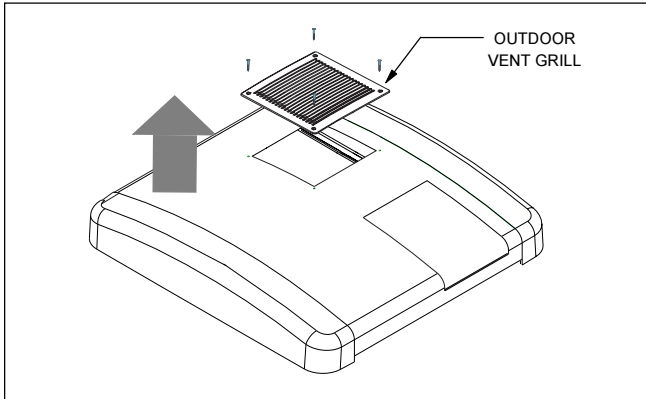

Figure 4. Removal of Outdoor Exhaust Grill
1. Remove the vent exhaust grill by removing the four screws which retain it. The grill and the screws may be discarded (See Figure 4).